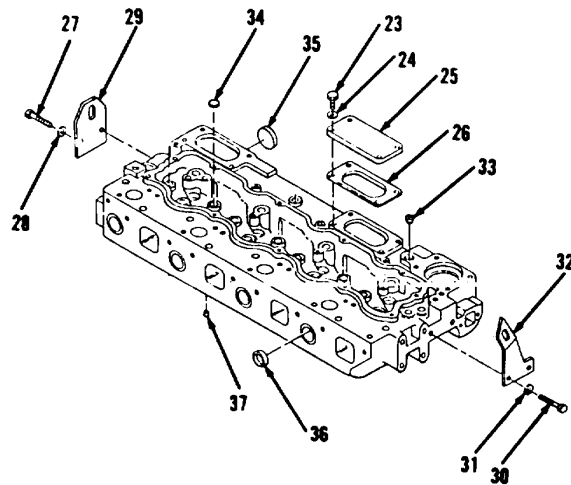

Figure 3-38.
1. Remove four bolts (23), washers (24), cover (25) and gasket (26, Figure 3-38). Discard gasket (26). Remove all gasket material from mounting surfaces.